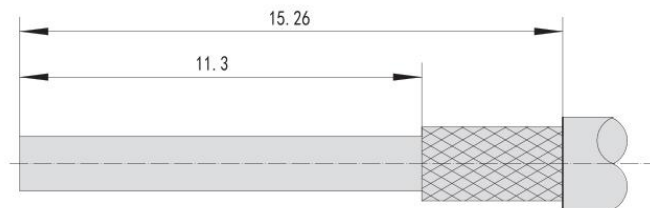

Figure 1.8
① Peel the cable as shown in Figure 1.8, and the end surface must be cut clean and perpendicular to the axial surface of the cable, and the cable cannot be deformed when cutting. Hot stripping line is recommended.